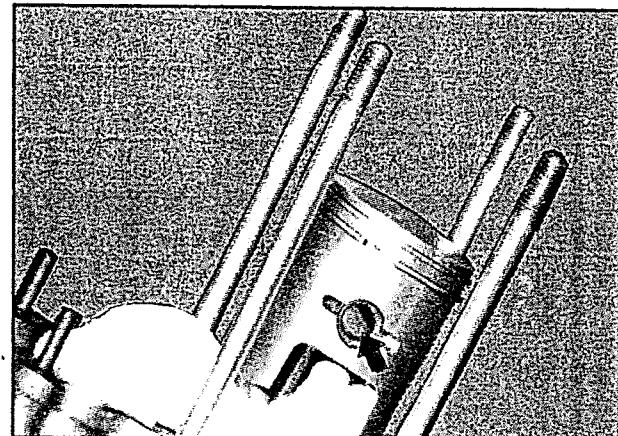

Fig 3.20
- Remove the piston pin circlips and draw out the piston pin (fig 3.20)